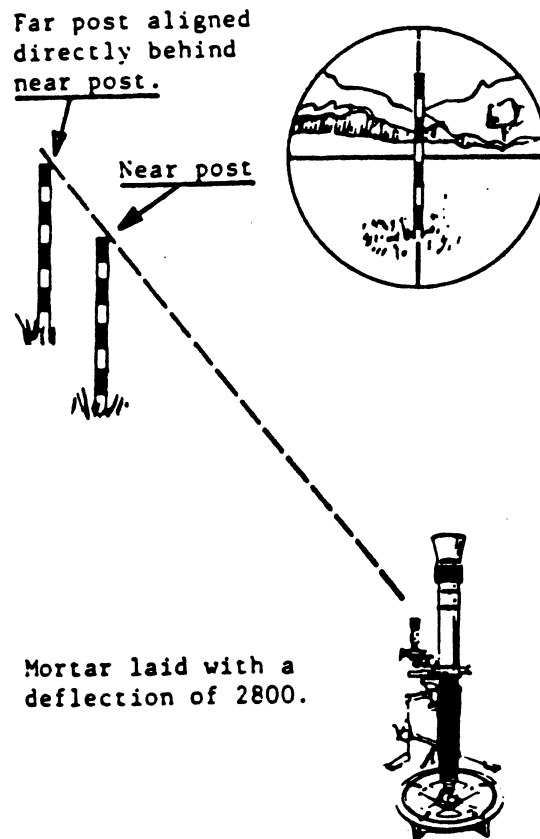

Fig 4-14. Sight picture with one aiming post visible.
b. When the far post is satisfactory, you will have the aiming post man move forward and place out the near post in the same manner 25 meters in front of the mortar position. When the near post is satisfactory, you will direct the aiming post man to return to the gun position. When the aiming posts have been placed out correctly and you look through the sight, you should see what appears to be one aiming post with the vertical crossline of the sight running up and down the left edge of the aiming post (fig 4-14).